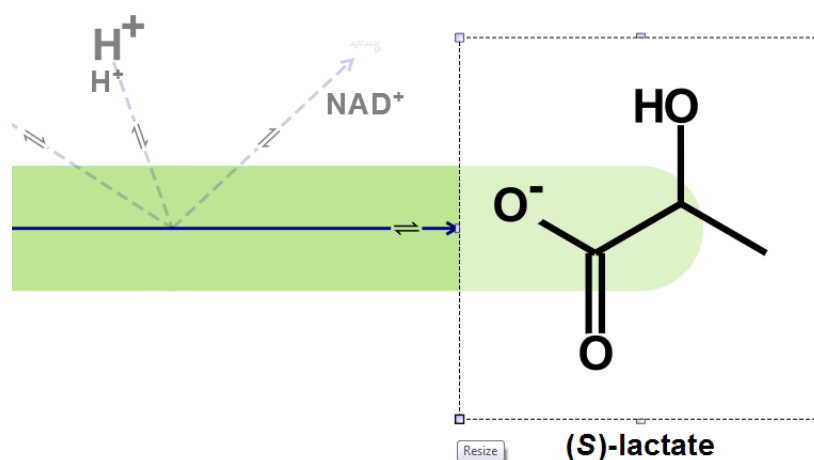

Figure 134 Change the size of a chemical structure on the network diagram, note that the cofactors are lighter indicating they do not appear in the view mode
- Zoom the *Drawing Area* to view a chemical structure of (S)-lactate in detail.
- Drag a corner control node on the chemical structure to make the chemical structure larger (Figure 134).